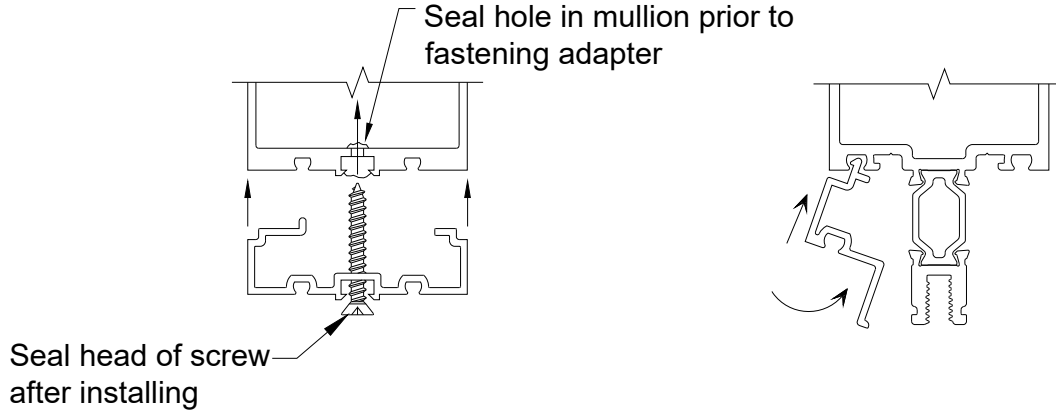

Figure 56: Installing Glazing Adapters
- 18.2 Install vertical adapters first, leaving an equal overlap into each pocket. For captured Verticals and all Horizontals, insert the hook side into the glazing reglet, then insert leg into reveal on Mullion. See *Figure 56*. Refer to Section 16.0 if Vertical is spliced within a spandrel lite. Glazing adapters must be installed after Mullion splice is sealed.
- 18.3 For SSG mullions, install locator leg into one of the glazing reglets. Locate, match drill, and seal penetrations, then secure to Mullion with **FS-318** Fastener 3" from the ends and 12" on center. See *Figure 56*.